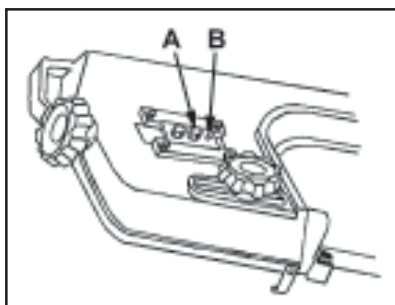

Figure 11: Blade tracking mechanism
5. Refer to *Figure 11*. Use a wrench to loosen bolt **A**, a small amount.